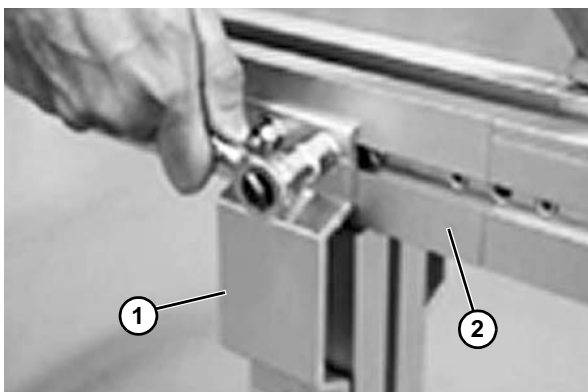

Figure 20
4. Mount the first support bracket (**Figure 20, item 1**) to the conveyor beam (**Figure 20, item 1**). Pull the second bracket up and insert the T-bolts into the conveyor beam T-slot. Tighten the nuts.